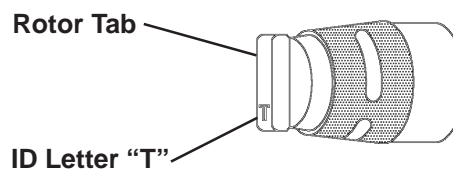

Figure HT-8 Location and Orientation of the “T” ID Letter
5. Once the rotor is removed from the valve body, note the orientation of the rotor tab, which is marked with the letter “T” (Figure HT-8).